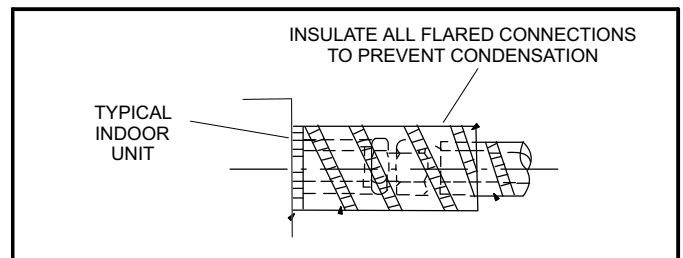

**Figure 5. Tighten Flare Nut**
- 6 - Once snug, continue another half-turn on each nut which should create a leak-free joint. A torque wrench may be used to tighten flare nuts using table 2 recommendations. (see figure 5). **Do not over-tighten a flared joint.**